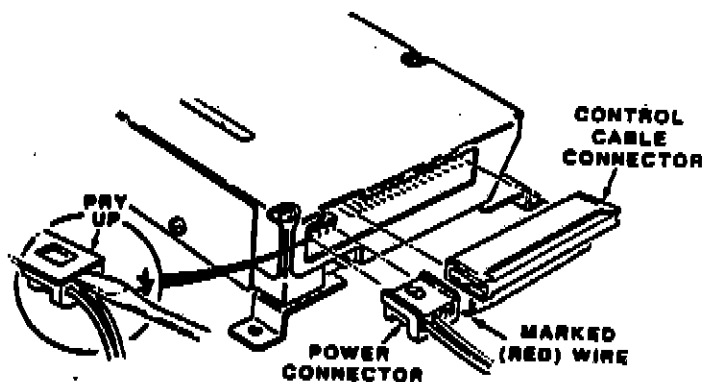

Figure 3-9. Disconnecting Floppy Drive B Power Cable
3. Lift drive B from the computer and use a small flat-blade screwdriver to remove the power connector, as shown in Figure 3-9.
- The red wire of the control cable connector is located as shown in Figure 3-9, and the connectors are fully engaged.